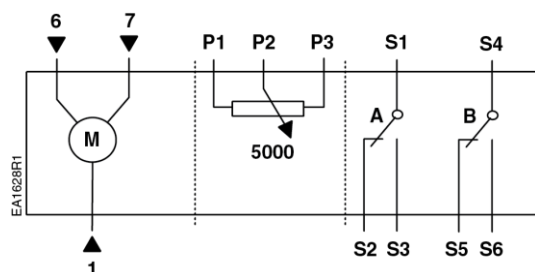

Figure 20. GDE14x Wiring Diagram.
1. Connect all wires per Figure 20.